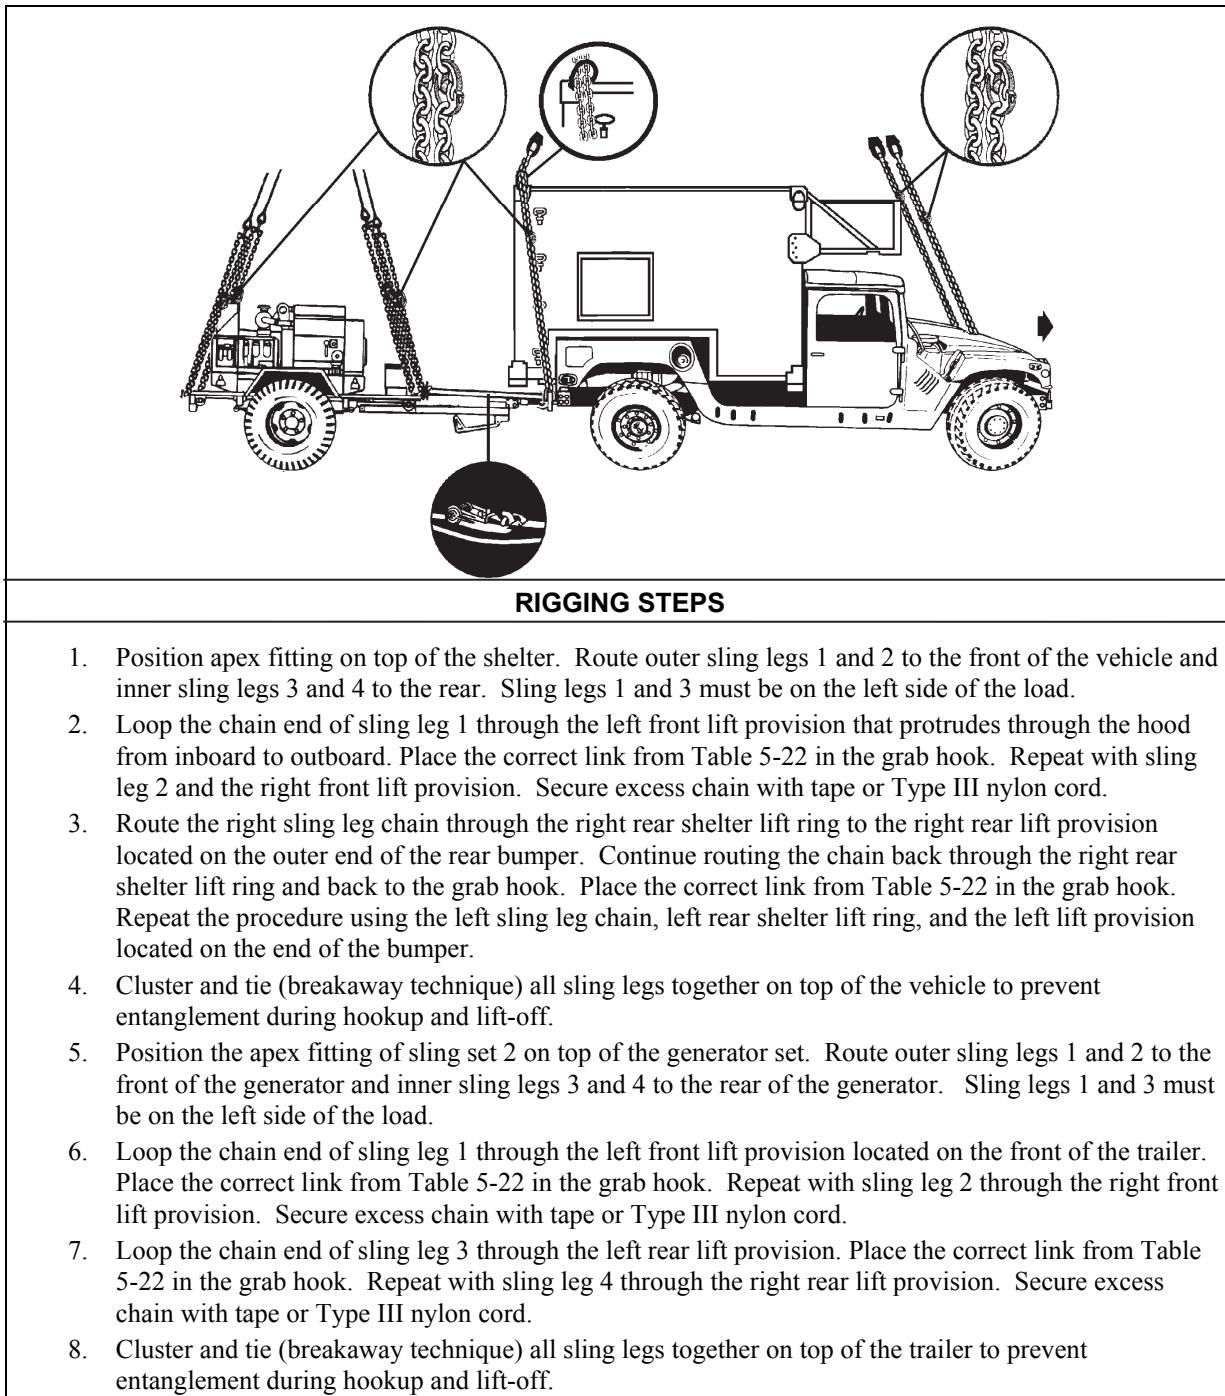

Figure 5-22. M1097A2 Shelter Carrier with LMS Shelter Using Shelter Lift Rings as Sling Guides and PU-798 Generator on M116A3 Trailer
- **Rigging.** Rig the load according to the steps in Figure 5-22.